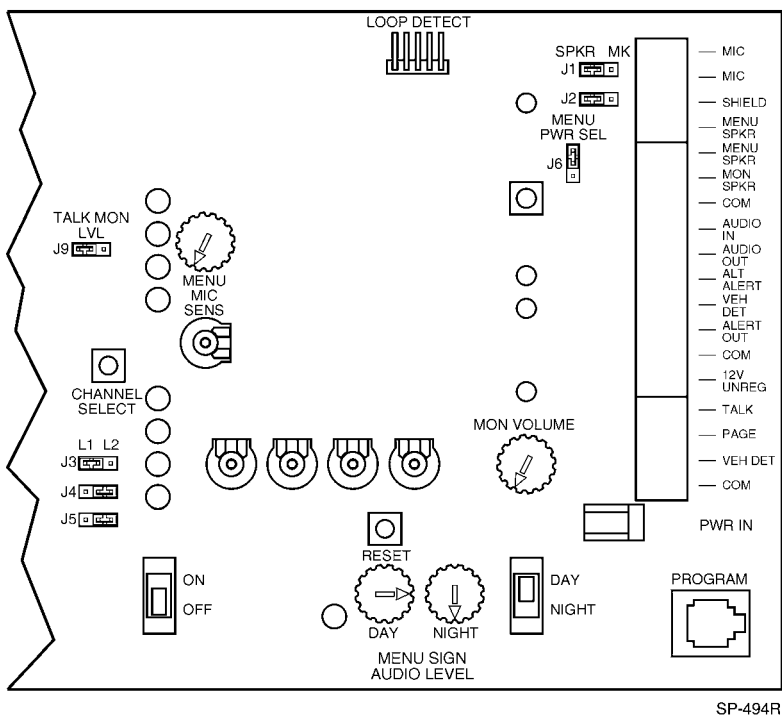

Figure 10. Wireless Base Station Audio Level Controls
1. Set the Base Station MENU MIC SENS pot to a mid-range level. (See Figure 10.)
6. If needed, adjust the MENU MIC SENS pot to achieve the desired volume. (See Figure 10.)
1. Set the DAY/NIGHT switch to DAY. (See Figure 10.)
6. If needed, adjust the DAY MENU SIGN AUDIO LEVEL pot to achieve the desired volume. (See Figure 10.)